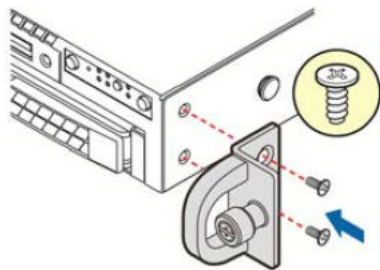

Figure 4: Installing the Rack Handles
- 1 Install the rack handles by aligning a rack handle with the two holes on each side of the engine and attaching each handle to the engine with two screws as shown in Figure 4.